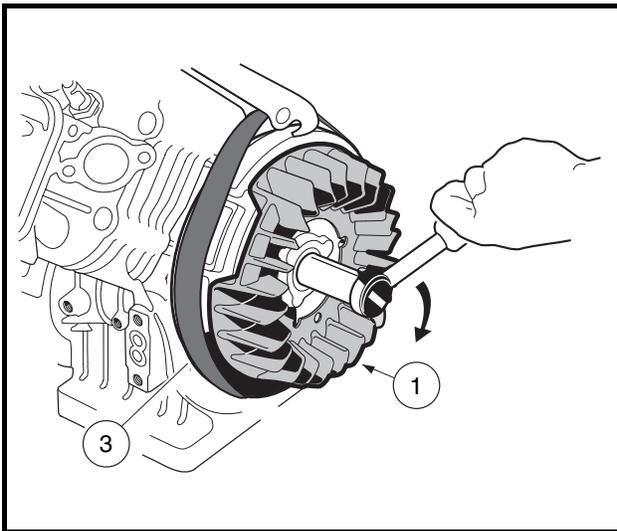

Figure 13-11 Fan and Flywheel Installation
2. Use a strap wrench (3) to keep the flywheel and fan assembly (1) from turning while tightening the flywheel nut to 63 ft-lb (85.4 N·m) (**Figure 13-11, Page 13-9**). **See following CAUTION.**